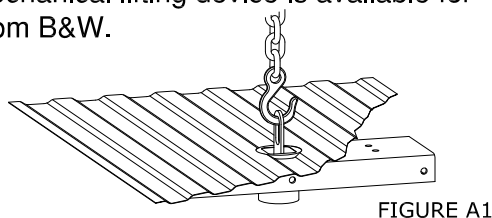

FIGURE A1
4. **Prepare a lifting device (optional).** The purpose of the device is to safely hold the hitch in position during part of the installation. See figure A1 for an example. A simple mechanical lifting device is available for purchase from B&W.